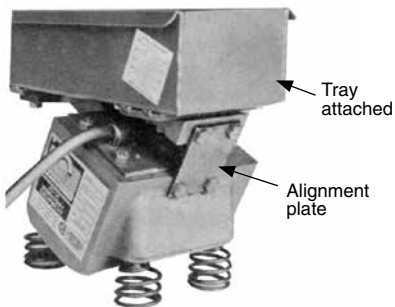

FIGURE 12
2. Attach the tray and fasten the bolts securely (See Figure 12).